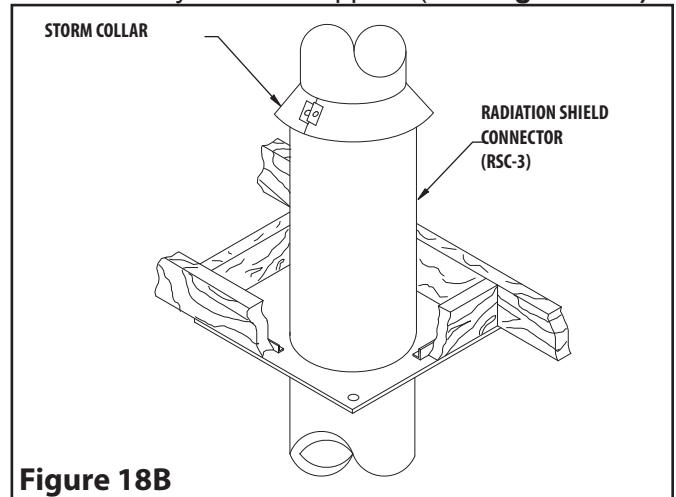

Figure 18B
Step 5.G: A Storm Collar (included with RSC-3) must be installed on top of Radiation Shield Connector (RSC-3) to prevent any loose insulation from falling in the area between the chimney and the support. (See **Figure 18B**)